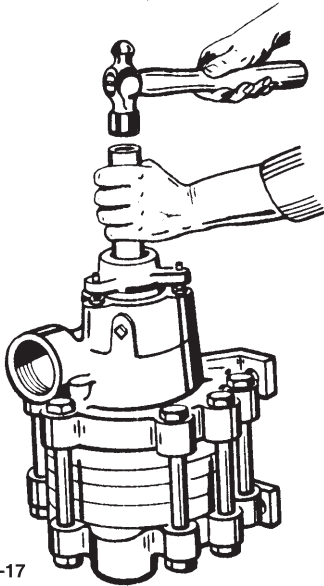

Figure 4-17
35. Keeping the pump upright, place a metal plate or other metal support piece beneath the shaft end (or work on a cement floor). Now drive the bearing arm assembly onto the shaft using a metal sleeve which contacts the inner race only. Drive the assembly down onto the shoulder and secure with three nuts (#20), tighten finger tight only. (refer to figure 4-17)